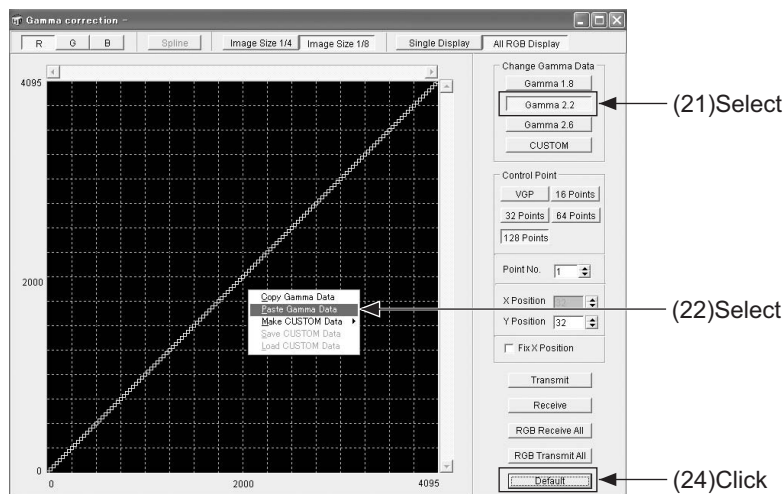

Fig.5
- (21) Select [Gamma2.2] in the [Gamma correction] screen. Refer to Fig.5.
- (22) Right-click on the Gamma curve in the [Gamma correction] screen to select [Paste Gamma Data]. Confirm that the Gamma curve for [R] is pasted. Refer to Fig.5.
- (23) Perform the procedures in step (19), (20), (21) and (22) for [G] and [B], as well.
- (24) When step (23) is completed, click [RGB Transmit All]. Refer to Fig.5.